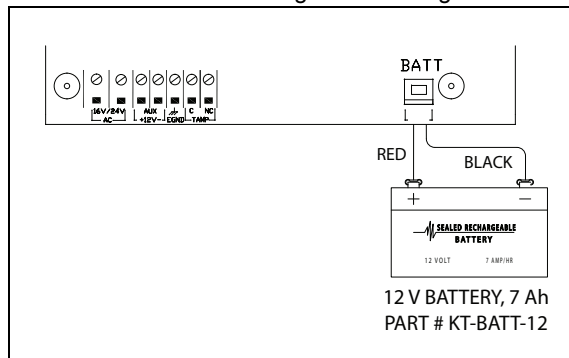

Figure 8: Connecting the Battery
2. To connect the board to the battery, connect the battery to the RED and BLACK leads on the KT-NCC as illustrated in Figure 8: on Page 18 below.